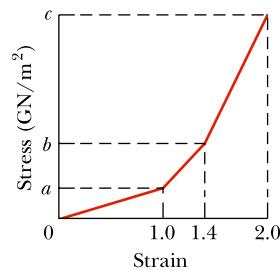

Figure 12.43 Problem 46.
**46 M BIO CALC FCP** Figure 12.43 shows an approximate plot of stress versus strain for a spider-web thread, out to the point of breaking at a strain of  $2.00$ . The vertical axis scale is set by values  $a = 0.12\text{ GN/m}^2$ ,  $b = 0.30\text{ GN/m}^2$ , and  $c = 0.80\text{ GN/m}^2$ . Assume that the thread has an initial length of  $0.80\text{ cm}$ , an initial cross-sectional area of  $8.0 \times 10^{-12}\text{ m}^2$ , and (during stretching) a constant volume. The strain on the thread is the ratio of the change in the thread's length to that initial length, and the stress on the thread is the ratio of the collision force to that initial cross-sectional area. Assume that the work done on the thread by the collision force is given by the area under the curve on the graph. Assume also that when the single thread snags a flying insect, the insect's kinetic energy is transferred to the stretching of the thread. (a) How much kinetic energy would put the thread on the verge of breaking? What is the kinetic energy of (b) a fruit fly of mass  $6.00\text{ mg}$  and speed  $1.70\text{ m/s}$  and (c) a bumble bee of mass  $0.388\text{ g}$  and speed  $0.420\text{ m/s}$ ? Would (d) the fruit fly and (e) the bumble bee break the thread?